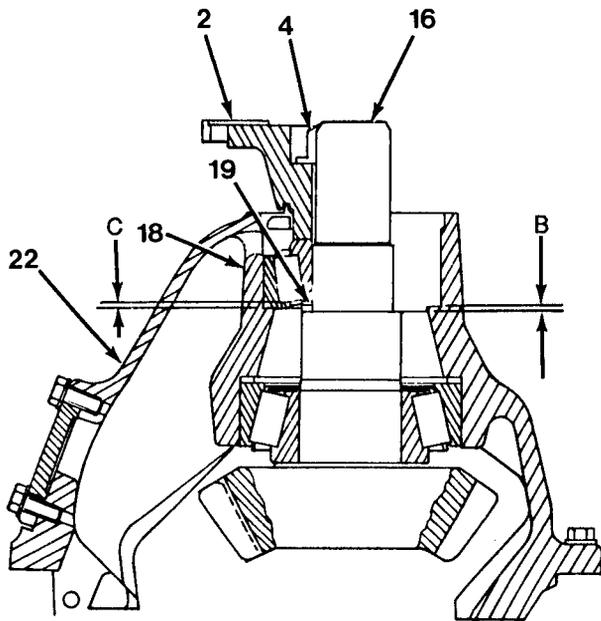

Figure 12-7
6. Determine thickness of bearing shim (19) on pinion (16, Figure 12-7).
- a. Place carrier housing (22) with small end upward.
- c. Using a dial gauge, measure difference in height between cone and cup of bearing which is equal to C. Thickness of required shim (19) = $B + C - 0.001$ in. (0.03 mm).
- d. Remove pinion (16) and install bearing cup (18) into small end of carrier housing (22).
- e. Install pinion (16). Install selected shim (19) and bearing cone (18), input yoke (2) and nut (4).